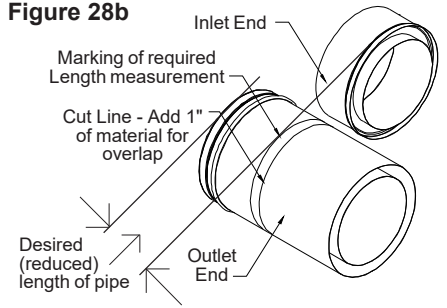

**Figure 28a**
An Adjustable Length (AL) is installed between other components to establish an exact finished length, where a standard length cannot be utilized. The AL has an overall length of 18" and has an installed length that adjusts from 6-1/2" to 17" (Figure 28a).